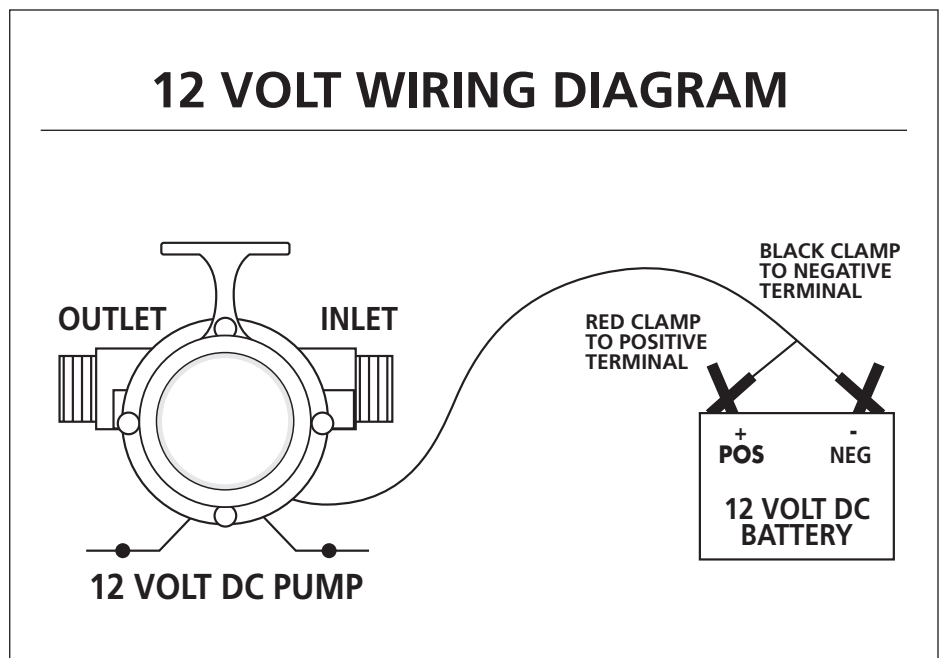

Figure 2
4. Connect pump to power source, with pump in a dry location. Model PC1: Motor must be connected to a fully charged automotive tractor or marine type battery to operate. Connect the red clamp to the positive (+) type battery terminal. Connect the black clamp to the negative (-) type battery terminal. See 12V wiring diagram below (Figure 2). **Model PC2:** Plug into a 115 Volt AC 3-prong ground-type GFCI receptacle.